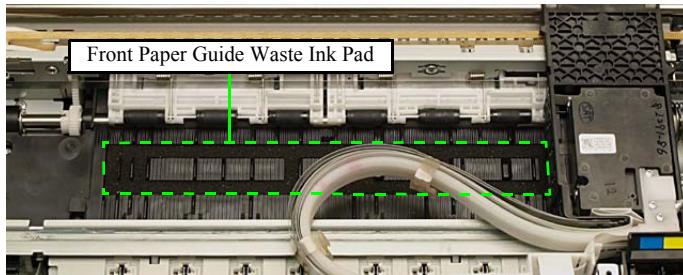

Figure 4-160. Removing the Front Paper Guide Waste Ink Pad
- Install the Front Paper Guide Waste Ink Pad without any gap. (See Fig. 4-160.)